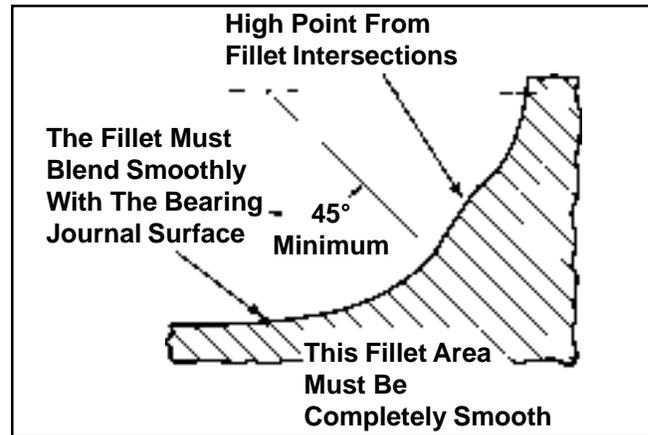

Figure 10-1. Crankpin Fillets.
**NOTE:** If the crankpin is reground, visually check to insure that the fillet blends smoothly with the crankpin surface. See Figure 10-1.